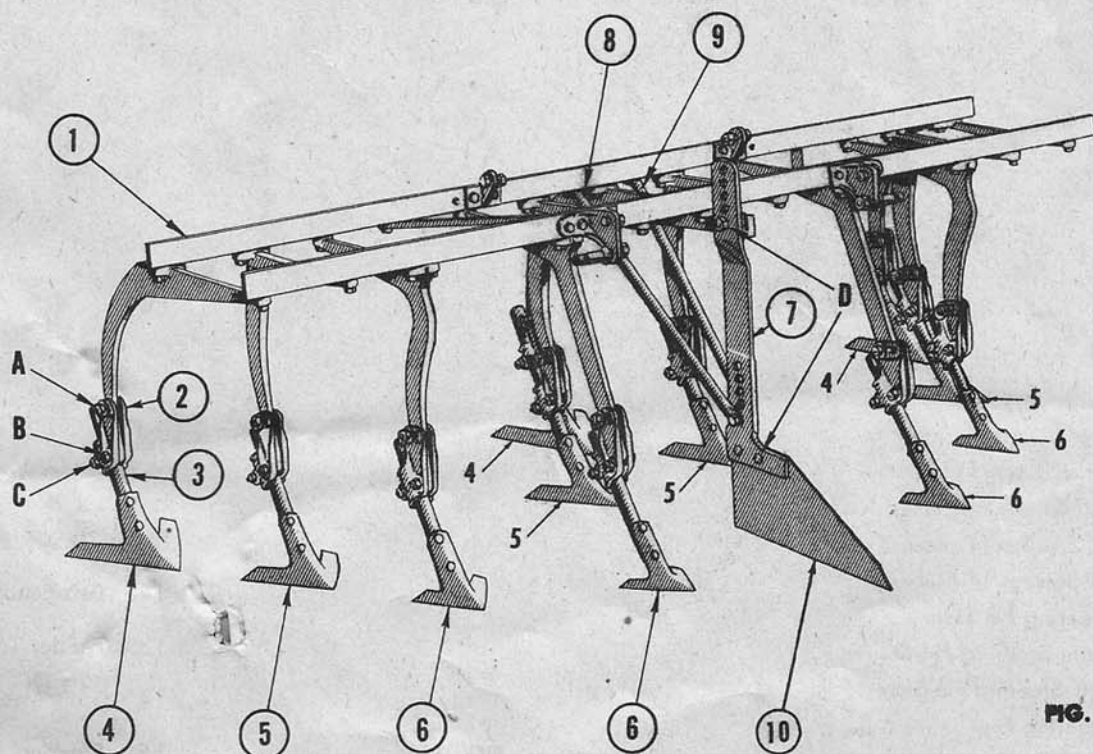
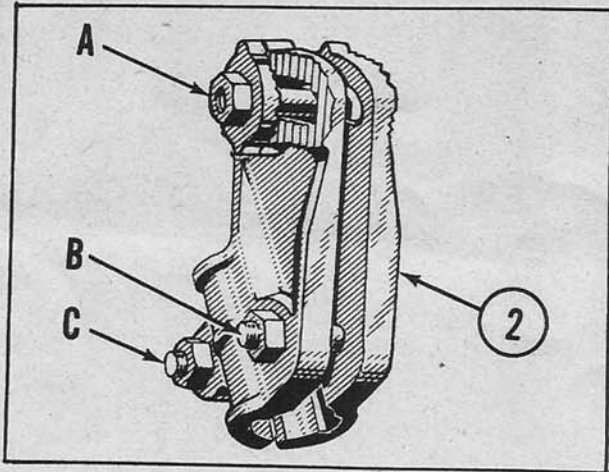
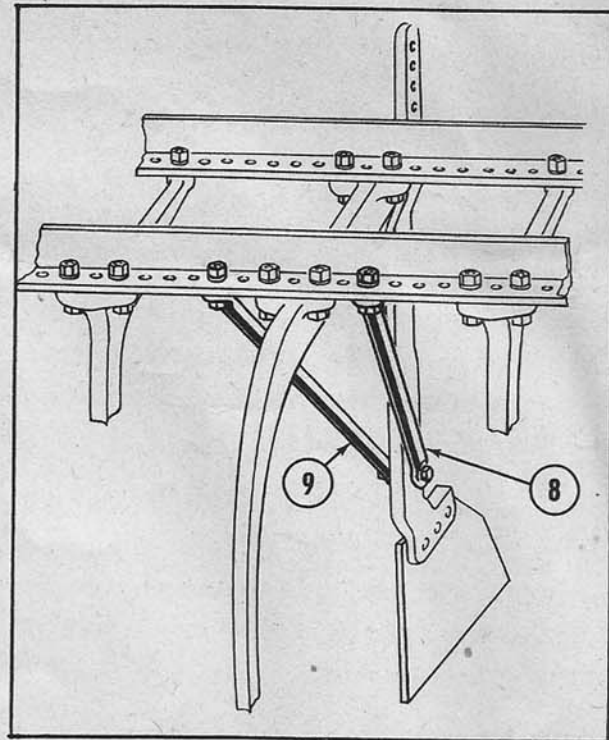
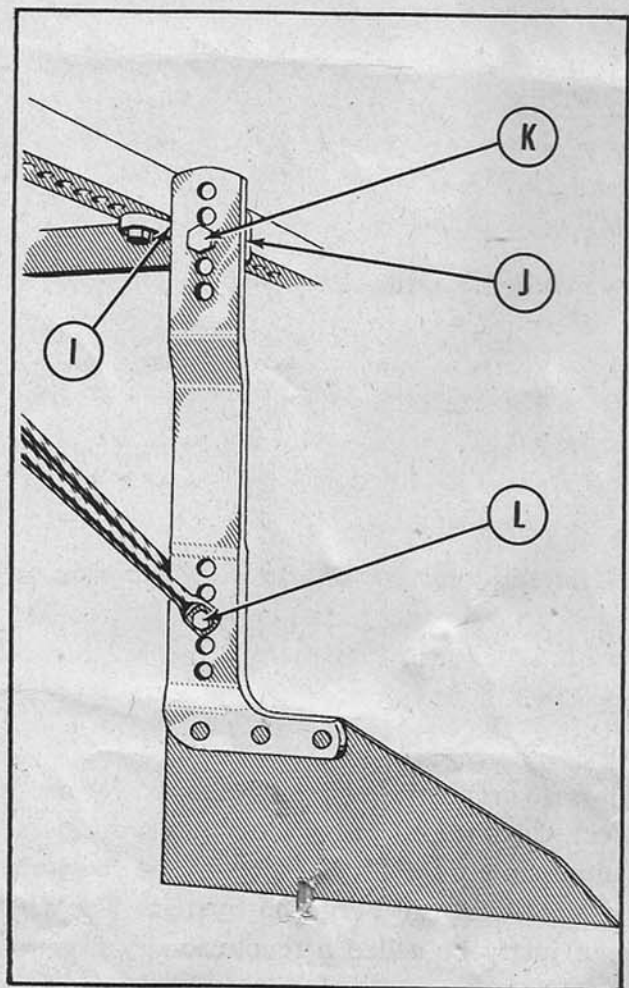

FIG. 2
FIG. 3—FOOT-CASTING
FIG. 4—STEM STAY
FIG. 10—STANDARD FIN
2. Turn main frame assembly (1) upside down, tines in the air. (Export shipments are made with the tines detached from the frame. Attach the tines as shown to suit the row widths required):
3. Attach foot casting (2) to cultivator tines. Leave bolts A and B (2) finger tight. **THIS IS IMPORTANT.** See Fig. 3 for additional detail. Set points of serrated washer and foot casting together as shown in Fig. 3.
4. Install shovel stem (3). Notice the markings and put all shovel stems in same posi-
tion. When tightening bolt A, Fig. 2, place all foot castings in the same position by using serrated foot casting (2) and washer. The special mark is provided to make this adjustment accurately. (See detail, Fig. 3.) Tighten bolts A and B first and then tighten bolt C.
5. Attach 10" sweeps (4).
6. Attach 8" sweeps (5).
7. Attach 6" sweeps (6).
8. Clean faces of steering fin stem (7) at points D and install stem.
9. Install right (8) and left (9) fin stem stay. *Note position of bolts on fin stem.* See bolts K and L, Fig. 10. Stays are attached to rear frame member as shown in Fig. 4.
10. Clean face of steering fin (10) at point D and install.